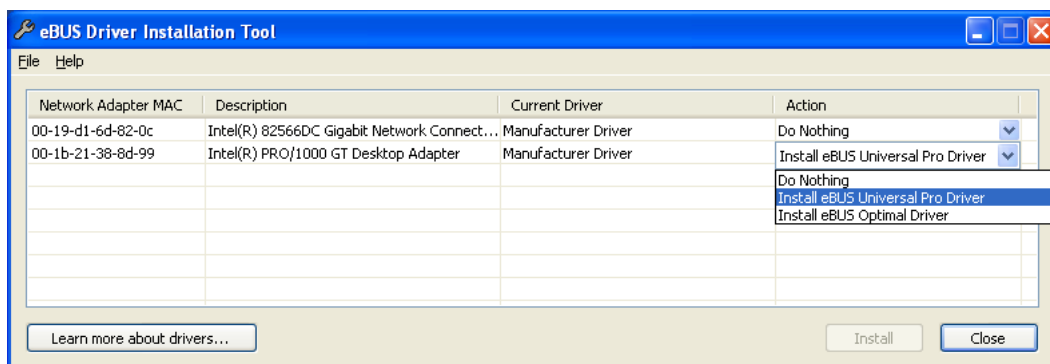

Figure 2.1: eBUS Driver Installation Tool
4. After the computer has been restarted, open the eBUS Driver Installation tool (Start -> All Programs -> eBUS SDK -> Tools -> Driver Installation Tool) (see Fig. 2.1). If there is more than one Ethernet network card installed then select the network card where your Photonfocus GigE camera is connected. In the Action drop-down list select Install eBUS Universal Pro Driver and start the installation by clicking on the Install button. Close the eBUS Driver Installation Tool after the installation has been completed. Please restart the computer if the program asks you to do so.